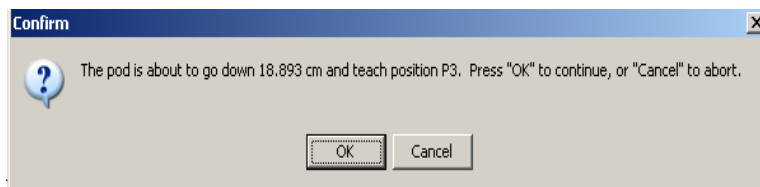

Figure 5. Confirm that the pod can move down in order to reach position P3.
- 2.9 Another warning will pop up, shown in Figure 5. After confirming that the distance moved will be tolerated, click OK and the framing will be performed.